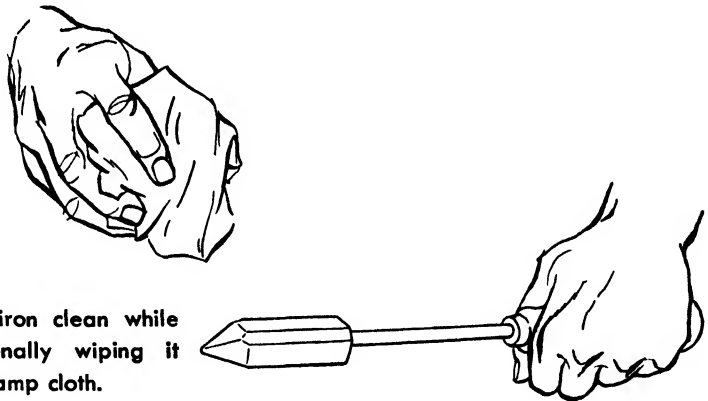

Fig. 11-7. Keep the iron clean while soldering by occasionally wiping it quickly with a clean damp cloth.
Keeping soldering irons clean Soldering irons in use will continually become dirty and will require frequent cleaning, usually immediately after every heating. An iron may be cleaned while hot by (1) wiping it quickly with a damp rag (see Fig. 11-7), (2) dipping